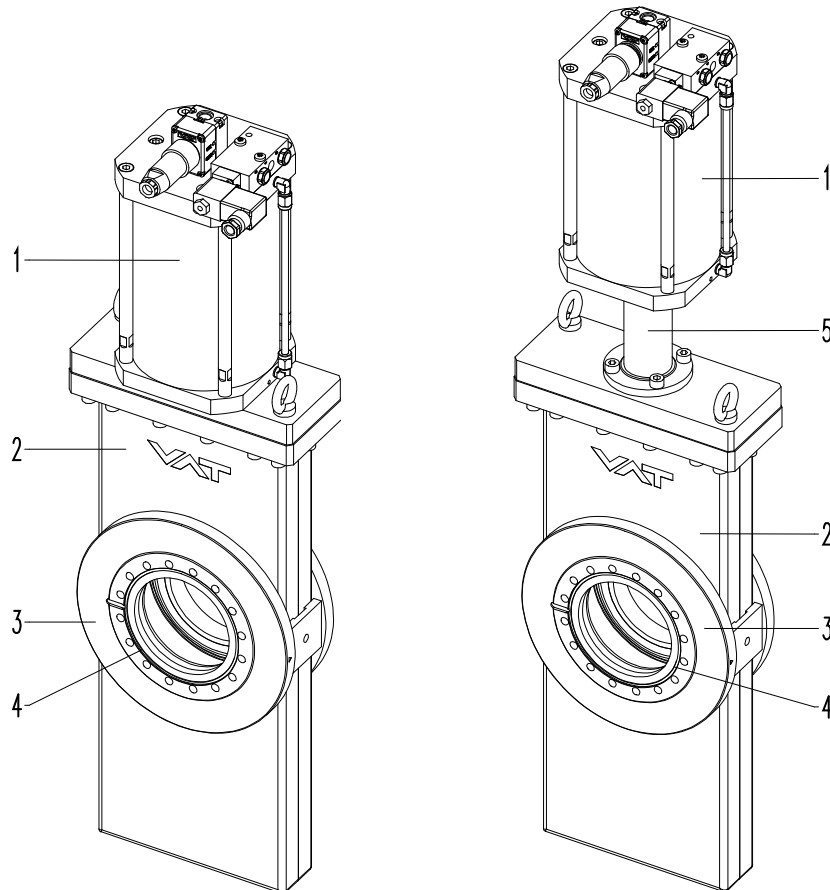

Figure 3-1
4. Clean sealing surfaces; see «Figure 3-1» on page 7, with a cleanroom wiper soaked with pure alcohol (Isopropanol).